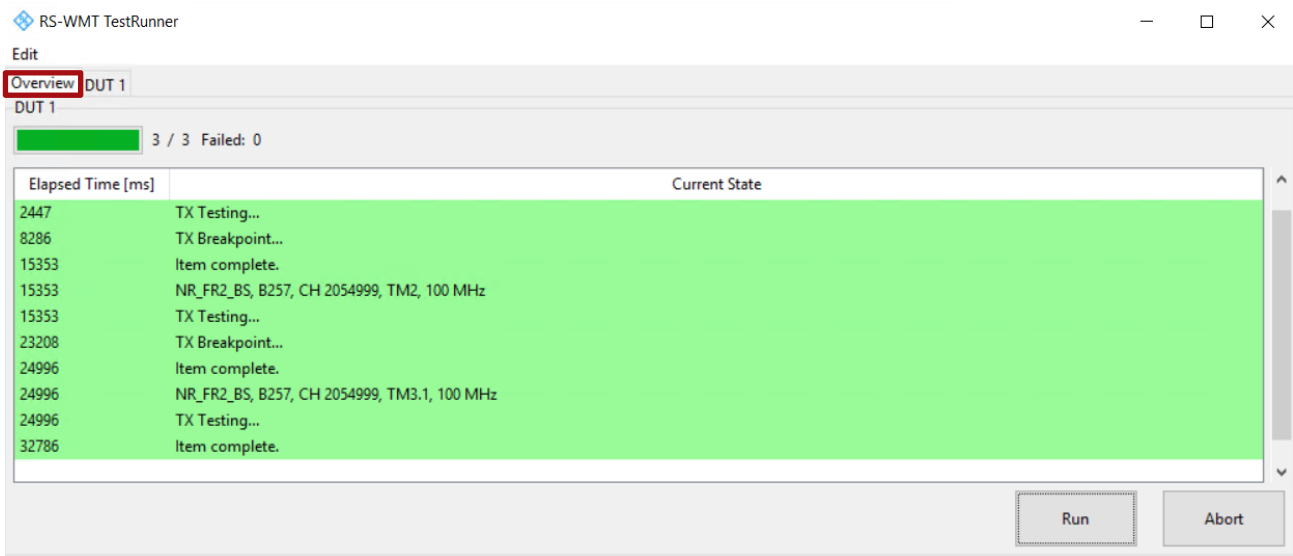

Figure 2-25 Overview of test run in WMT Test Runner
5. After the test plan execution is terminated in WMT Test Runner, the 'Overview' page (Figure 2-25) summarizes the status of the test execution.